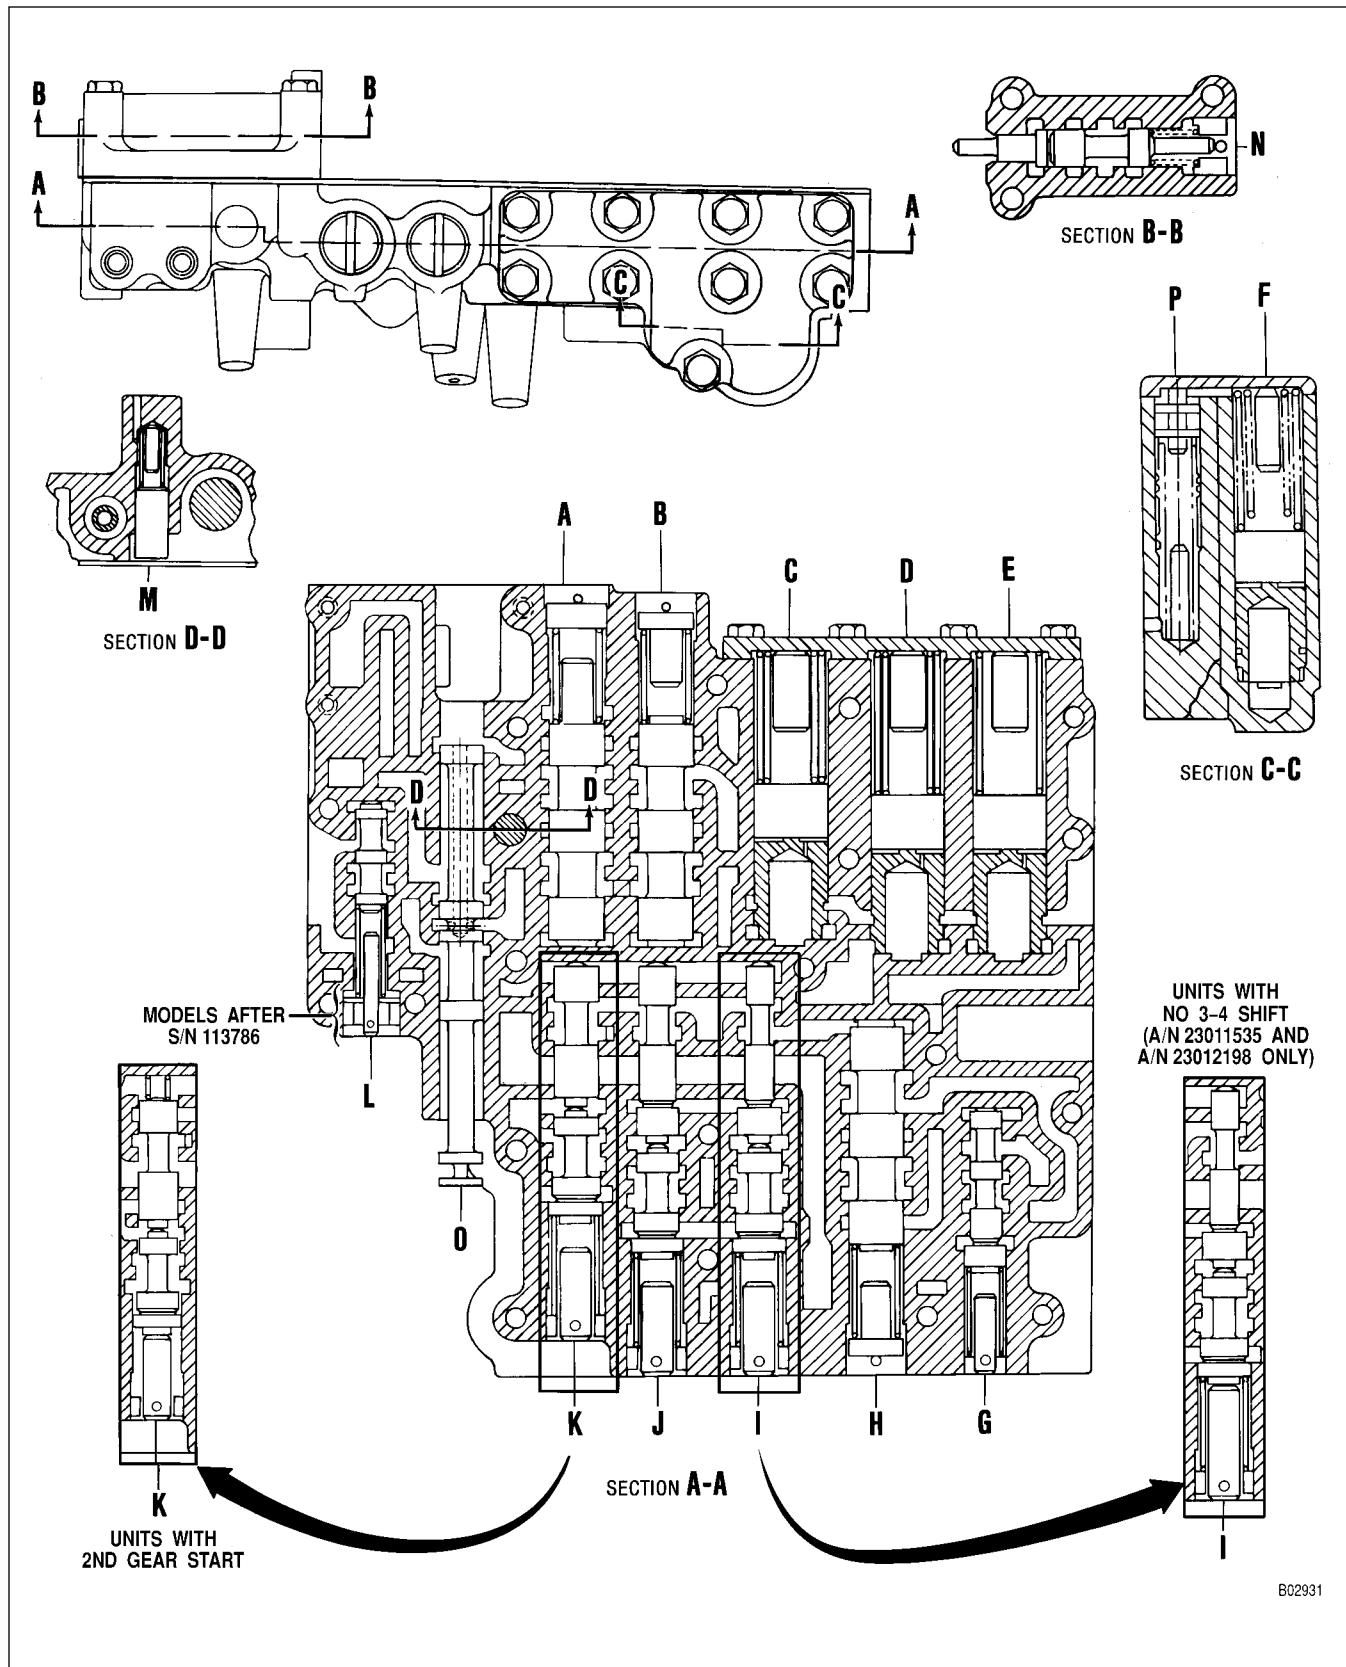

Figure 6-20. Control Valve Body Assembly — With Components Installed
**Check the configuration and position of all components (Figure 6-20). Check the identification of all springs (Paragraph 8-2). All valves, when dry, must move freely by their own weight in their bores.**
(1) Install 1-2 relay valve 40 (Foldout 11) into Bore **A** (Figure 6-20). Into the same bore, install spring 41 (Foldout 11) and spacer 42. Compress spacer 42 and install pin 36 through the valve body and at the outside end of spacer 42.
(2) Install 2-3 relay valve 37 into Bore **B** (Figure 6-20). Into the same bore, install spring 38 (Foldout 11) and valve stop 39. Compress stop 39 and install pin 36 through the valve body and at the outside end of stop 39.
(3) Install fourth clutch trimmer valve 29 into Bore **C** (Figure 6-20). Into the same bore, install plug 30 (Foldout 11), springs 31 and 32 (if present), and valve stop 33.
(4) Install second clutch trimmer valve 21 into Bore **D** (Figure 6-20). Into the same bore, install plug 22 (Foldout 11), springs 23 and 24 (if present), and valve stop 25.
(5) Install third clutch trimmer valve 12 into Bore **E** (Figure 6-20). Into the same bore, install plug 13 (Foldout 11), spring 14, and valve stop 15.
(6) Install first clutch trimmer valve 16 into Bore **F** (Figure 6-20). Into the same bore, install plug 17 (Foldout 11), springs 18 and 19 (if present), and valve stop 20.
(7) If removed, install spring 27 into Bore **P** (Figure 6-20). Into the same bore, install stop 26 (Foldout 11) and accumulator valve 28.
(8) Install cover 34. Hold cover against spring force and install nine (or eight, some models) 1/4-20 x 3/4 inch bolts 35. Using preset torque wrench J 26912, tighten the bolts to 8-12 lb ft (11-16 N·m).
(9) If removed, install trimmer regulator valve 76 into Bore **G** (Figure 6-20). Into the same bore, install spring 77 (Foldout 11) and valve stop 78. Compress stop 78 and install retainer pin 79 through the valve body and through the hole in stop 78.
(10) Install 3-4 relay valve 72 into Bore **H** (Figure 6-20). Into the same bore, install spring 73 (Foldout 11) and valve stop 74. Compress stop 74 and install pin 75 through the valve body and at the outside end of stop 74.
(11) Install 3-4 shift signal valve 66 into Bore **I** (Figure 6-20). Into the same bore, install 3-4 modulator valve 67 (Foldout 11), spring 68, valve stop 69, and adjusting ring 70. Compress adjusting ring 70 and install retainer pin 71 as it was at removal.
(12) Install 2-3 shift signal valve 60 into Bore **J** (Figure 6-20). Into the same bore, install 2-3 modulator valve 61 (Foldout 11), spring 62, valve stop 63, and adjusting ring 64. Compress adjusting ring 64 and install retainer pin 65 through the valve body, across the recorded step of adjusting ring 64, and through the hole in stop 63.
(13) For units with second gear start, install spring 83 into Bore **K** (Figure 6-20). For all models, into Bore **K**, install 1-2 shift signal valve 54 (Foldout 11). Into the same bore install 1-2 modulator valve 55. For units without second gear start, install spring 56. Install valve stop 57 and adjusting ring 58. Compress adjusting ring 58 and install retainer pin 59 through the valve body, across the recorded step of adjusting ring 58, and through the hole in stop 57.
(14) Install hold regulator valve 46 into Bore L (Figure 6-20). Into the same bore, install spring 47 (Foldout 11) and valve stop 48. Prior to transmission S/N 113786, install valve plug 49. Beginning with transmission S/N 113786, install washer 50 and adjusting ring 51. Compress adjusting ring 51 and install retainer pin 52 through the valve body, across the recorded step of adjusting ring 51, and through the hole in stop 48.
(15) Install valve stop 43 into Bore M (Figure 6-20). Into the same bore, install spring 44 (Foldout 11) and priority valve 45.
(16) Into Bore N (Figure 6-20), install either modulator valve 8 (Foldout 11), spring 7, washer 6, stop 5, and adjusting ring 4; or, actuating rod 80, modulator valve 81, spring 7, and adjusting ring 82. Compress adjusting ring 4 or 82 and install retainer pin 9 through the valve body, across the recorded step of adjusting ring 4 or 82, and through the hold in stop 5 or at the outside end of valve 81.
(17) Install separator plate 2 onto valve body 11. Install valve body 10 onto separator plate 2.